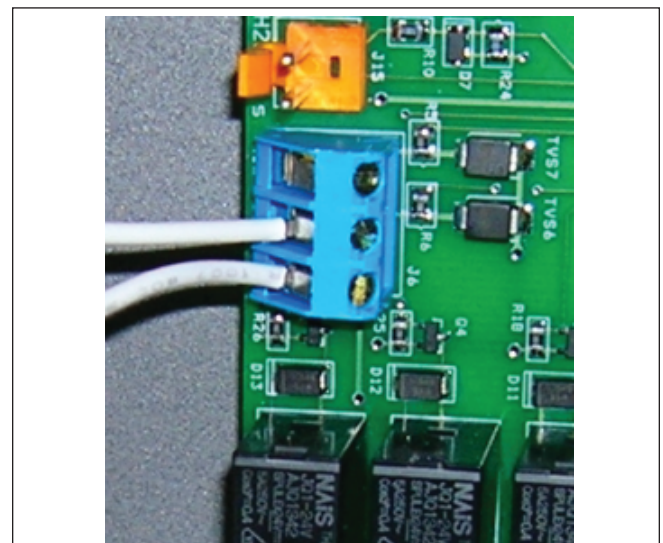

Figure 18. AquaLink® RS or Remote TSTAT Connection (2-Wire Connection)
- Connect the wiring from the pool/spa control system to the heater remote control terminal (see Figure 18).